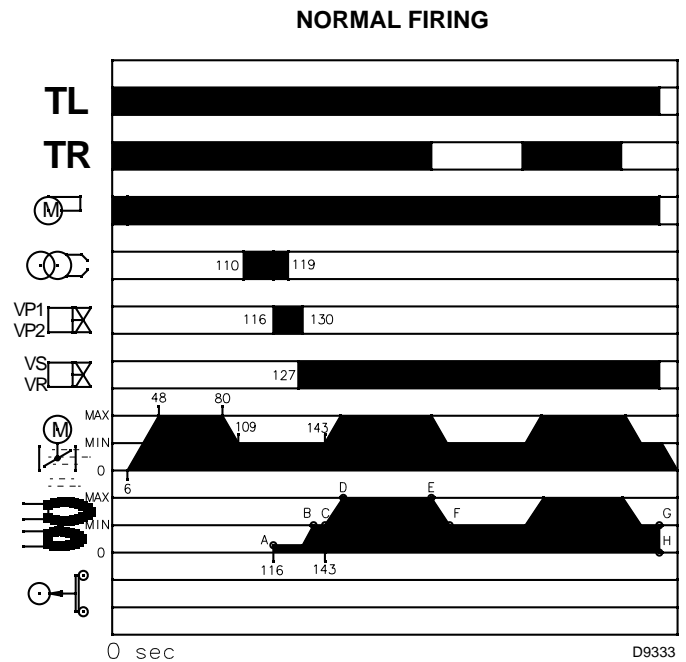

Fig. 41
- 116s Pilot valve VP1 and VP2 open. The flame is ignited at a low output level point A (Fig. 41).
- 130s Safety valve VS and adjustment valve VR (rapid stroke) open. Delivery is then progressively increased, with the valve opening slowly up to MIN output, point B (Fig. 41).
At the end of the starting cycle, the servomotor control then passes to the thermostat/pressure switch TR for boiler pressure or temperature point C (Fig. 41).